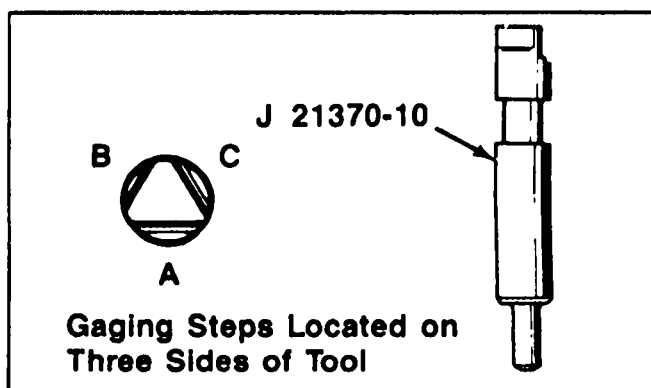

Figure 114
1. Place J-21370-10 gage pin into the reverse servo pin bore (Figure 114).
6. There are gaging steps located on three sides of the gage pin (See Figure 114).